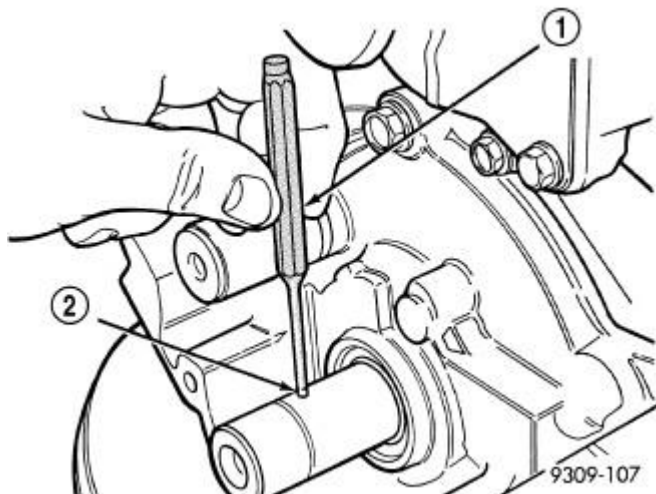

Fig. 368: Crankshaft Sprocket Dowel Pin-Removal/Installation
2. Tap the dowel pin (2) out of the crankshaft. Refer to **Fig. 368**.